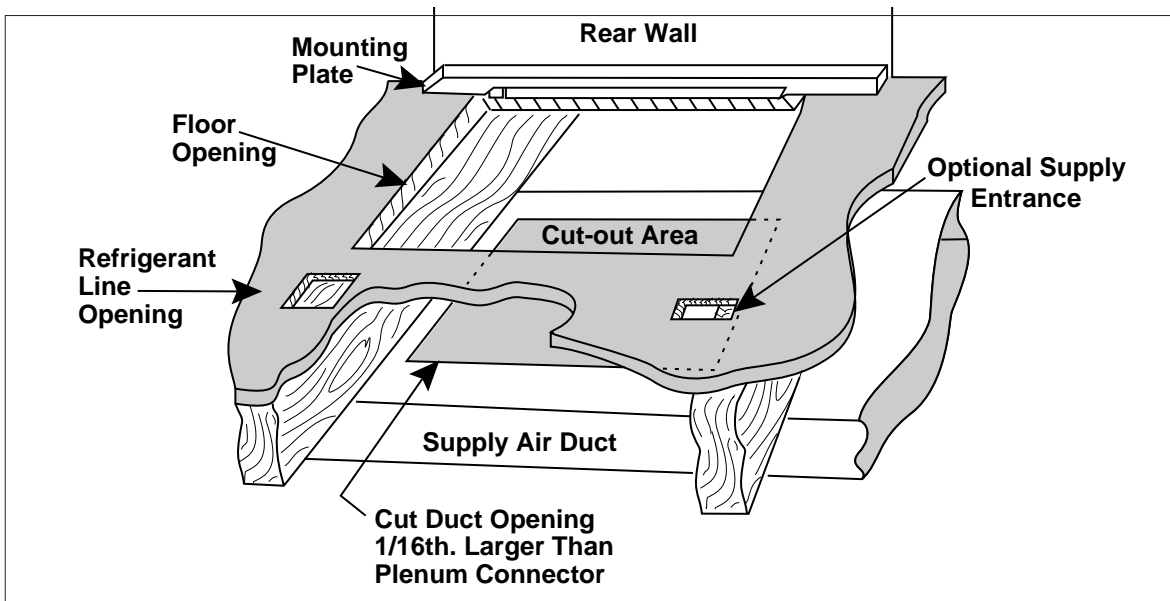

Figure 7. Rear Mounting Plate
3. If using optional rear mounting plate (supplied with plenum connector), install it to back edge of floor opening (see Figure 7). Reinstall plenum connector in floor opening. A shim may be used, if necessary, to ensure the furnace is level.